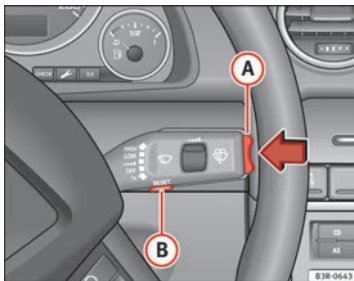

Fig. 61 Windscreen wiper lever: Onboard computer controls
Press RESET button **B** ⇒ Fig. 61 to switch back and forward between onboard computer functions 1 and 2.
The driving time warning can be switched off by briefly pressing the function selector switch or the **Reset** button → Fig. 61.
- Press the top or bottom of the function selector switch **A** → Fig. 61. This displays the functions of the onboard computer in sequence.